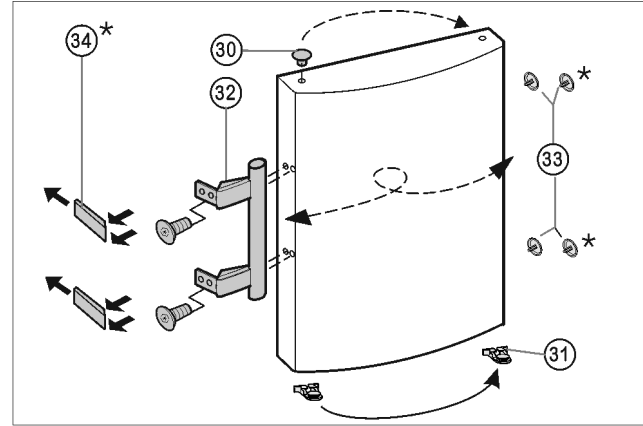

Fig. 9
- ▶ Pull the Fig. 9 (30) plugs out of the door bearing bushes and move them to the other side.
- ▶ Remove the door handles Fig. 9 (32), plugs Fig. 9 (33) and pressure plates* Fig. 9 (34) and swap them over to the opposite side.